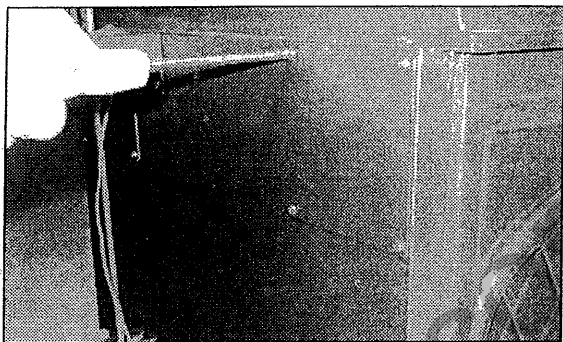

Figure 17
1. Remove both of the cover plates from the backshield of the DV425 by removing the four (4) screws that hold each in place. See Figure 17.